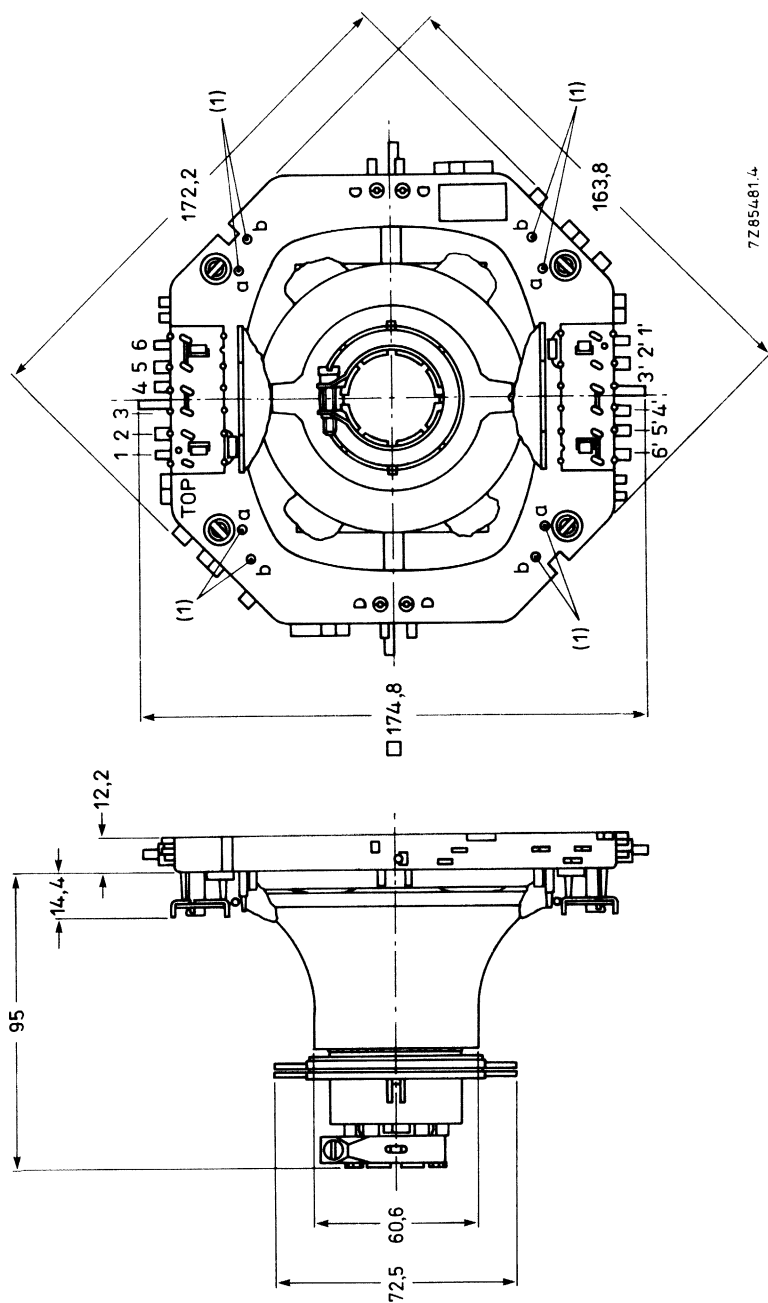
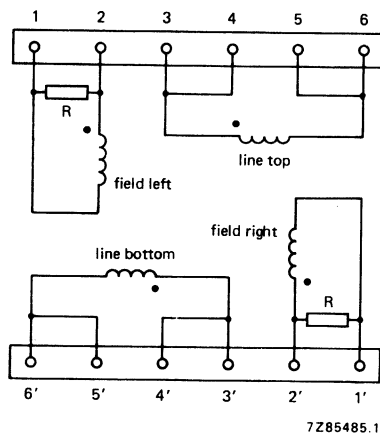

Fig. 1 Deflection unit AT1037/11.
Fig. 2 Diagram of line and field coils; $R = 270 \Omega$. The beginning of the windings is indicated with ●.
If a further improvement of raster geometry is required use can be made of correction magnets*, which must be fitted to mounting posts (1). The unit has solder pins for connection. The pin numbering in Fig. 1 corresponds to that in Fig. 2.